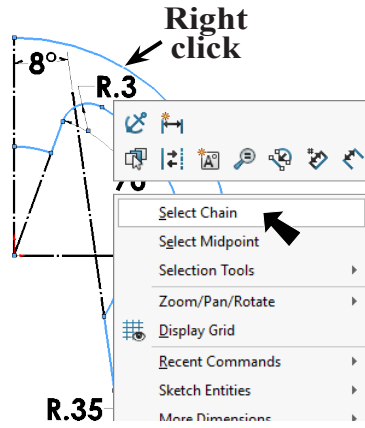

Fig. 16
Step 1. **Right click** an arc of the sketch and click **Select Chain** from the menu, **Fig. 16**.